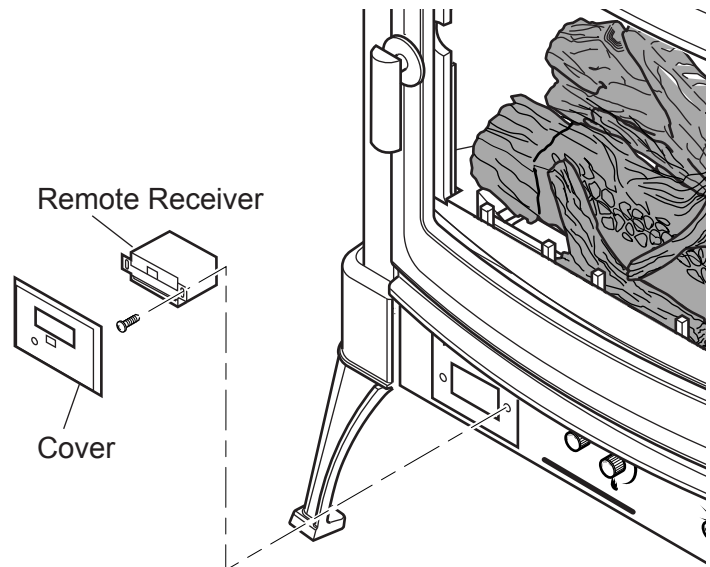

Figure 6 - Installing Remote Receiver
1. Remove cover on control panel to show opening for remote receiver. See Figure 6.
6. Connect the connectors to the two .25" male connectors located on the left side when facing the unit (Figure 6). Do not let the wire touch the grate or burners.
7. Slide remote receiver in the opening of control panel. Use two screws provided to attach remote receiver to the control panel. See Figure 6.
8. Replace Cover. See Figure 6.